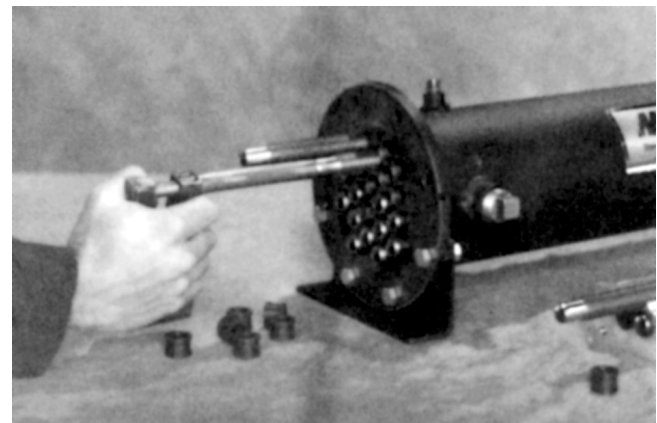

Figure 3: Short End
6. From the short end, grip the tube with the tube tool. With a twisting motion, pull the tube until the entire tube is removed from the shell. Repeat for each tube (see Fig. 3).